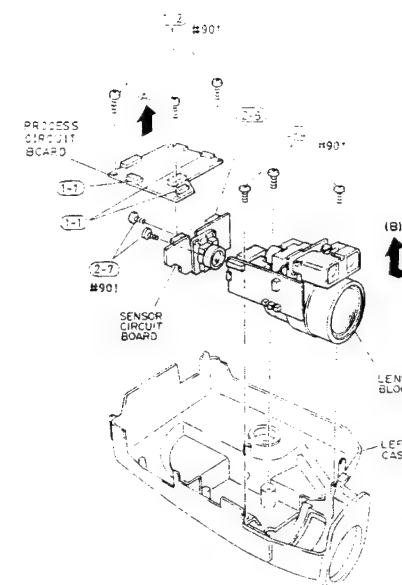

Fig. 2-25
- 1) Disconnect two (2) connectors (CN1208, CN1209) and one (1) flat cable (CN1207) on the process circuit board. (See Fig. 2-25)
- 2) Remove three (3) screws holding the process circuit board.
- 3) Remove the process circuit board in the direction of arrow (A) separating the from the sensor circuit board. (The process and sensor circuit boards are connected via board-in type connector.)
(2) Sensor Circuit Board, Lens Block
- 4) Remove three (3) screws holding the lens block. (See Fig. 2-25)
- 5) Remove the lens block and sensor circuit board from the left case in the direction of arrow (B).
- 6) Disconnect one (1) flat cable (CN1002) on the sensor circuit board.
- 7) Remove two (2) screws holding the sensor circuit board.